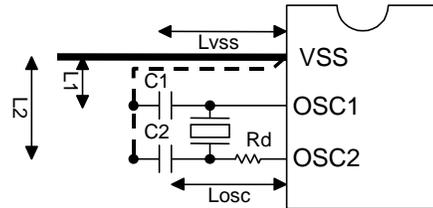

Figure 2-1. Sample Oscillation Circuit 1 (Ceramic resonator)
- When the ceramic resonator option is selected : (Figure 2-1)
- The length of the lines ( $L_{osc}$  in Fig.2-1) between the clock I/O pins (input: OSC1, output: OSC2) and the external components should be as short as possible.